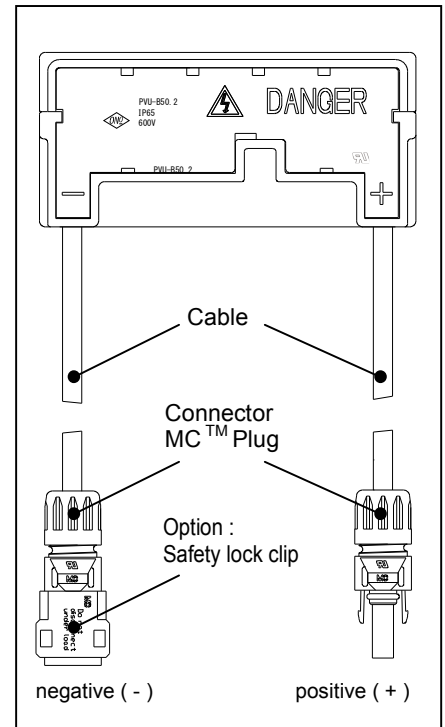

Figure 4 Configuration of Junction Box
- One terminal is dedicated to each polarity (with the polarity symbols engraved onto the body of the junction box) (see Figure 4)